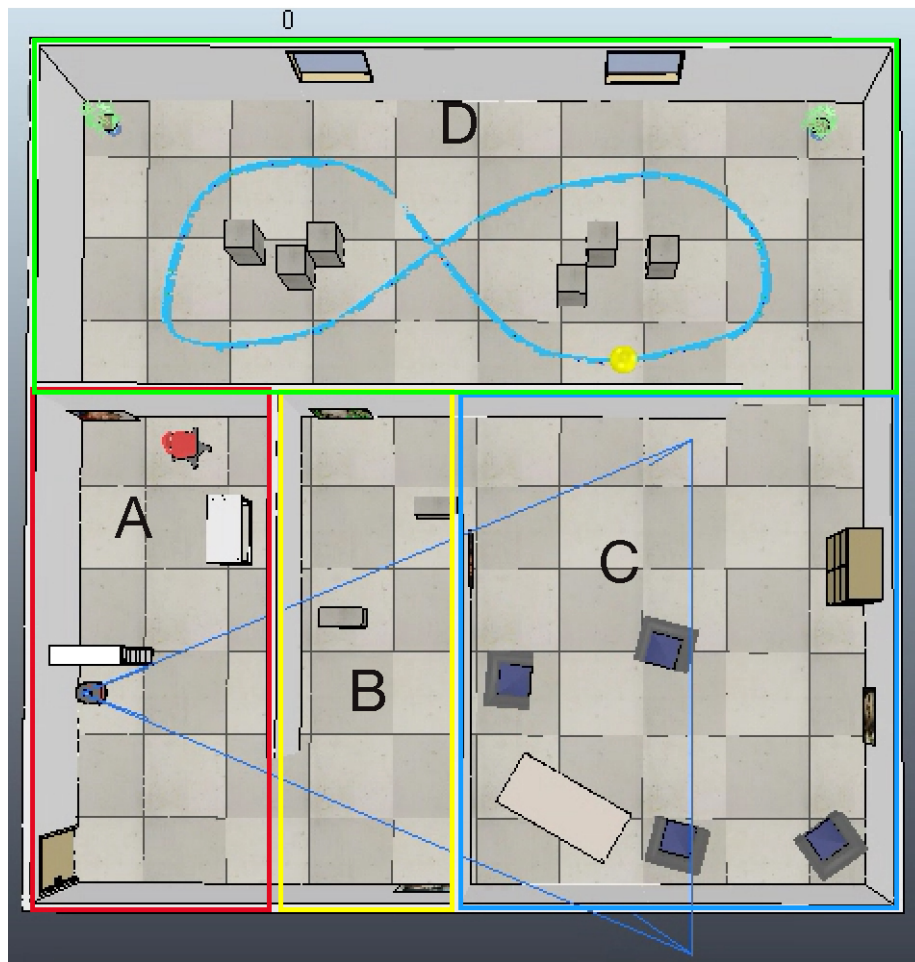

Figure 1: divided areas
- 5 The room is divided into several areas, as Fig 1 shows, let the robot judge which area it locates. 20%